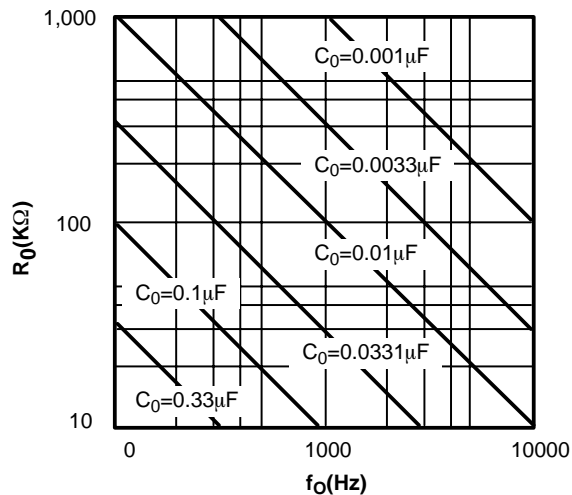

Figure 7. VCO Frequency vs. Timing Capacitor
- c) Calculate value of C_0 from design equation (1) or from Figure 7:
- Calculate value of C_0 from design equation (1) or from *Figure 7* $f_S = f_O$: